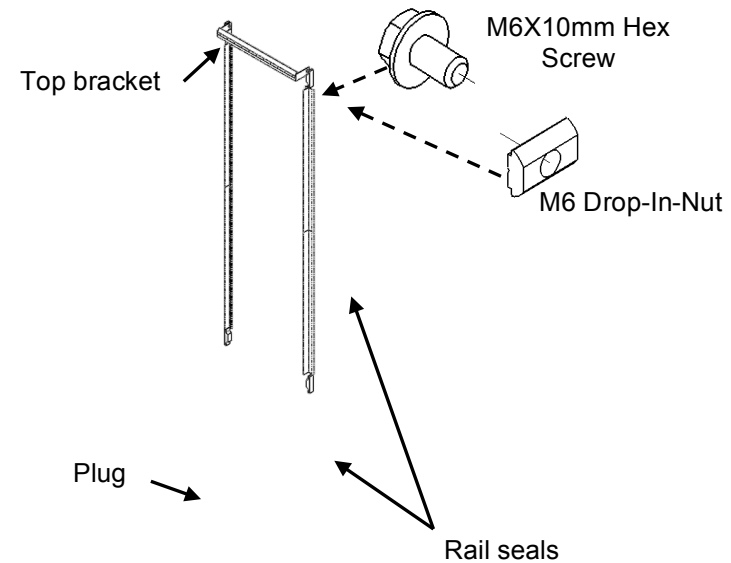

Fig. 1
1. Air dam is comprised of one top bracket, four rail seals, plugs (Fig.1) and bottom bracket (page 3).